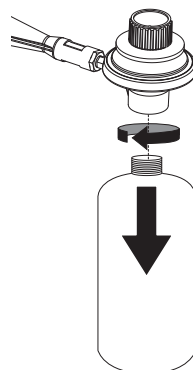

Figure 5
3. Spoon several drops of solution, or use squirt bottle, at all "X" locations. (Figure 5)